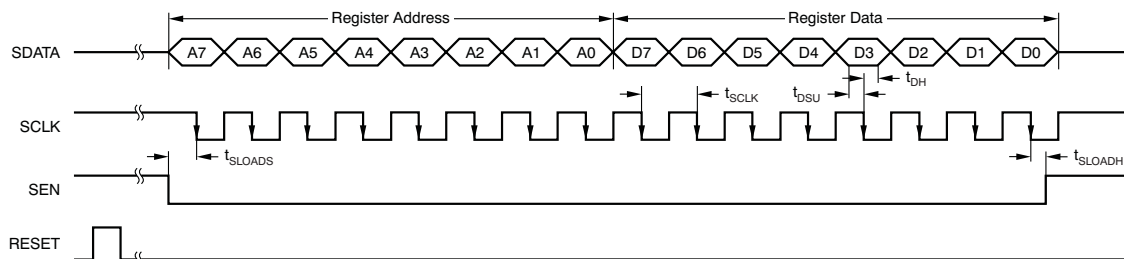

Figure 9. Serial Interface Timing
1. Either through hardware reset by applying a high pulse on the RESET pin (of width greater than 10ns), as shown in Figure 9; or